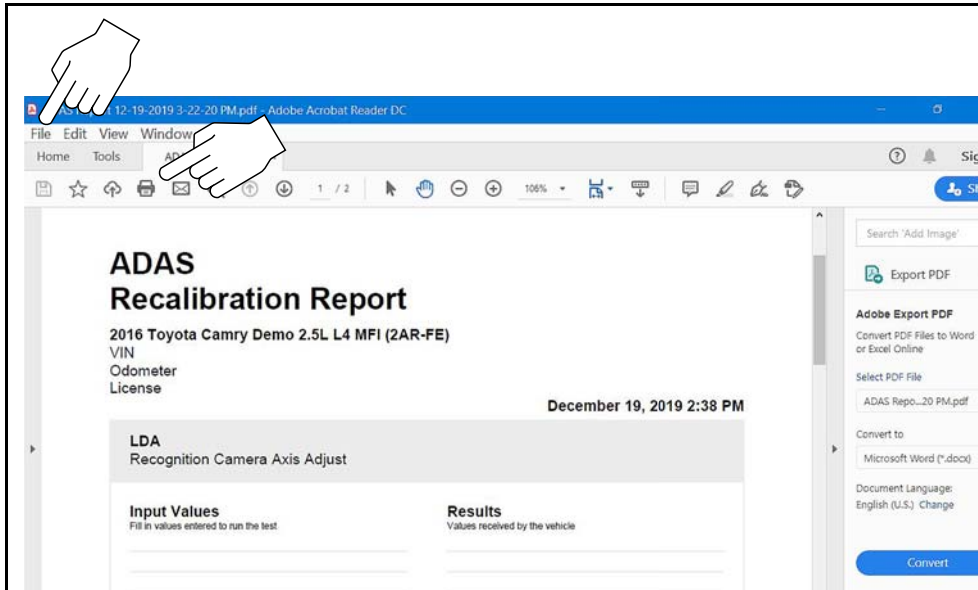

Figure 18-6
4. From the PDF viewer use the menu or toolbar print options to print the file (Figure 18-6).